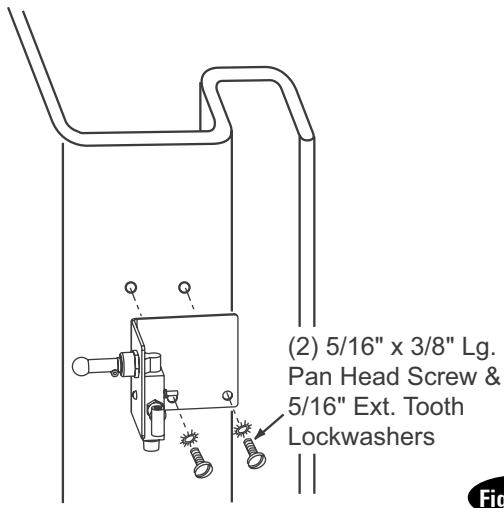

Fig. 15a
- F) Mount lowering switch and bracket to column using (2) 5/16"-18NC x 3/8" lg. PHMS, Fig. 15a.